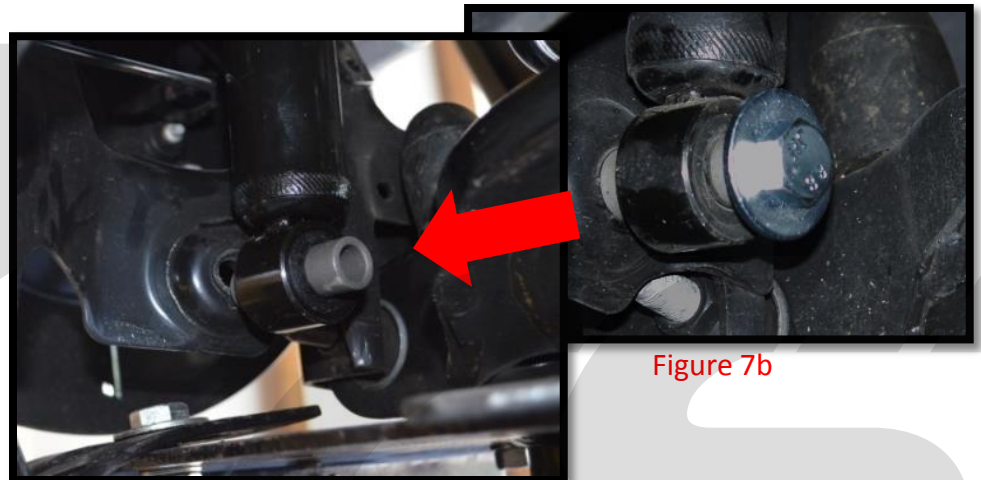

Figure 7b
c) **For Gen2 Only: Using the supplied 19mm bolt and washer,** attach the bottom of the shock to the spindle and torque to 50ft-lbs. (Figure 7b). **Gen1 Only: Reuse the stock hardware and torque to 50ft-lbs.**